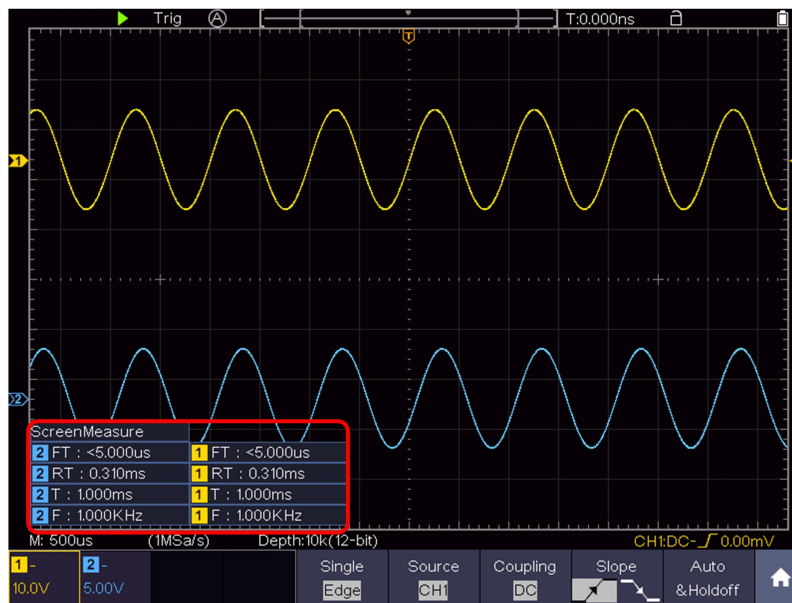

Figure 4- 18 Automatic measurement
- The measured value will be displayed at the bottom left of the screen automatically (see *Figure 4- 18*).